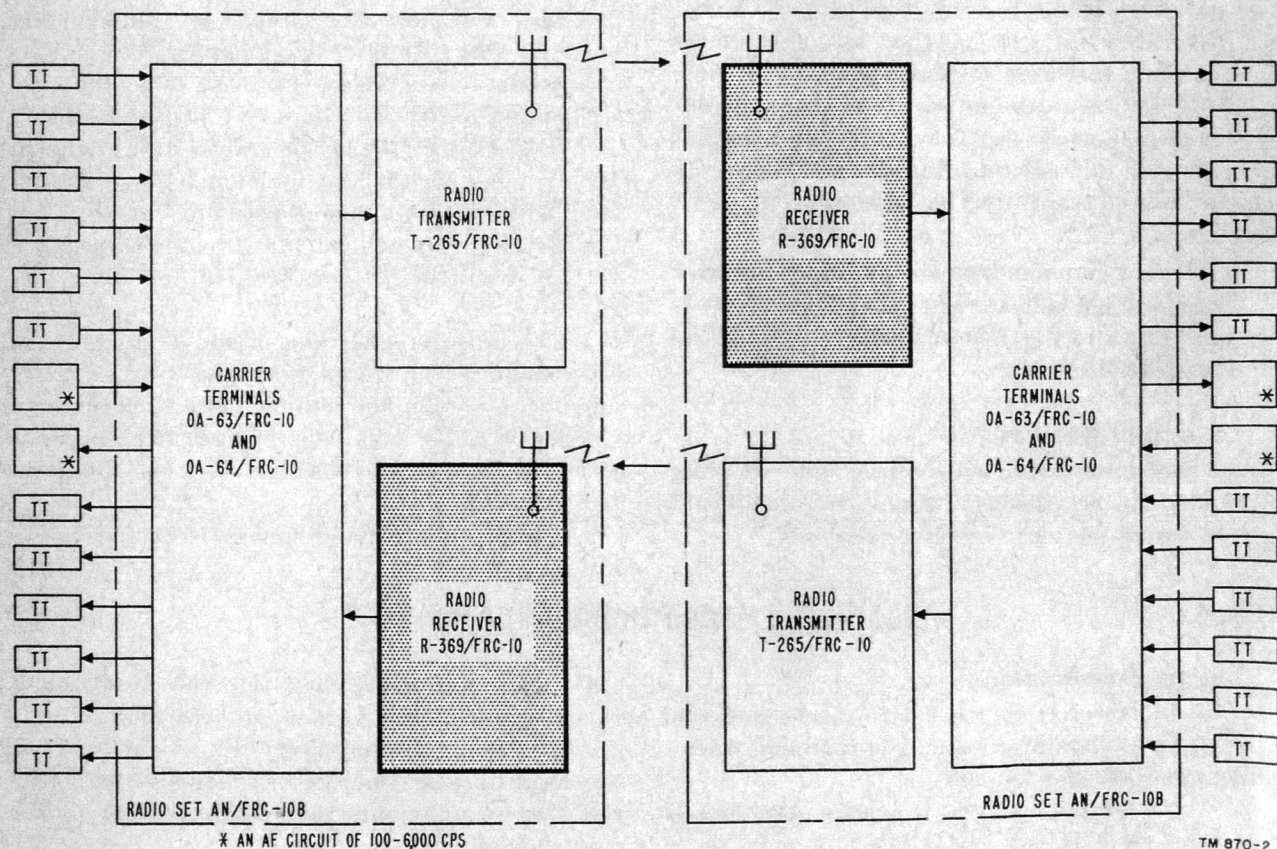

Figure 2. Radio Set AN/FRC-10B, system block diagram.
c. Figure 2 contains a simplified block diagram of Radio Set AN/FRC-10B. Two of these sets shown provide a complete two-way system capable of providing signal communications between points thousands of miles apart.